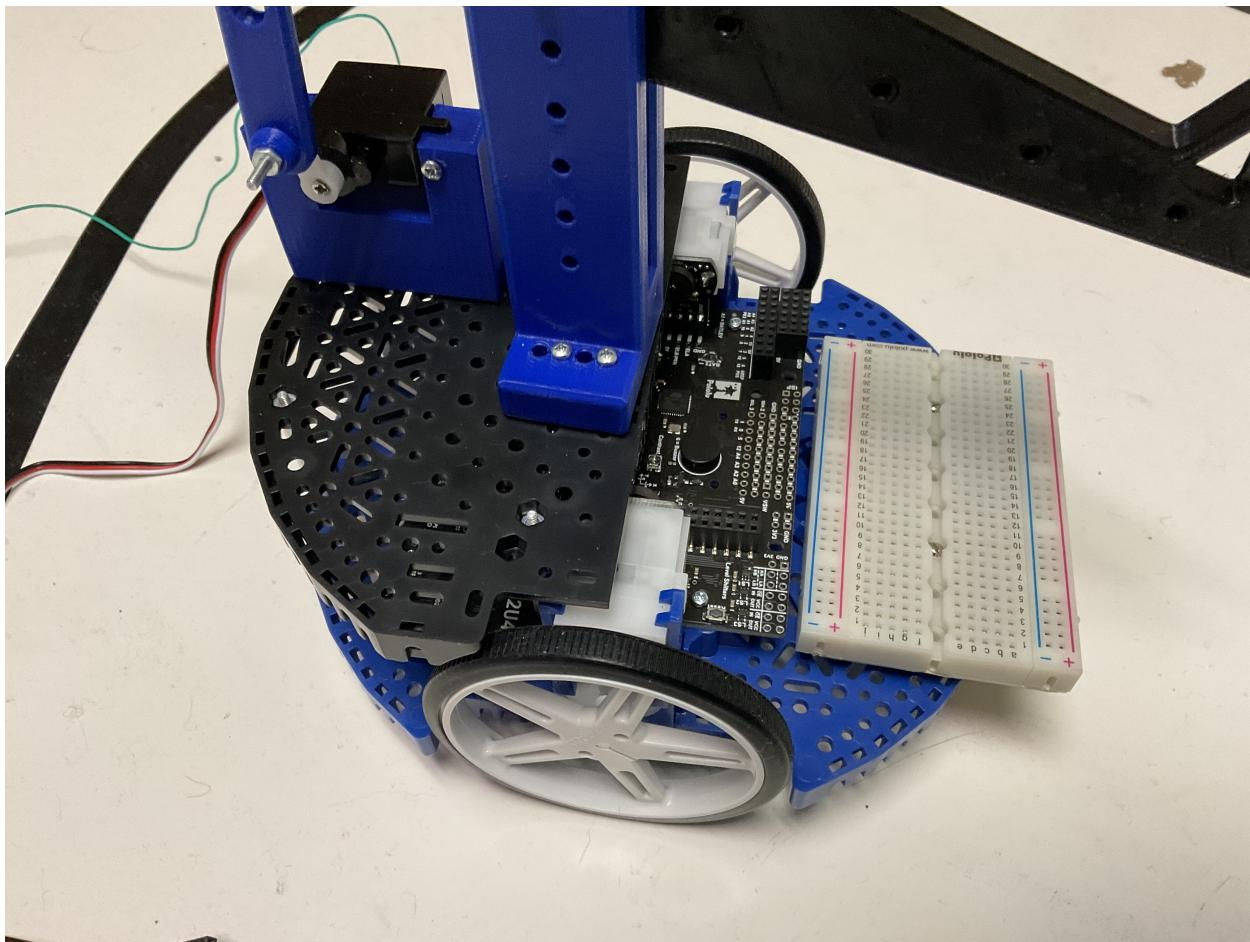

Figure 9: Romi with breadboard mounted.
- (a) Using the plastic tubing in your kit, cut (2) 1/4" lengths to be used as spacers. Using 3/4" screws, mount the breadboard to the base with the spacer between the breadboard and the chassis, as shown in Figure 9. Alternatively, you can just use tape or a rubber band to hold the breadboard to the Romi, but do not remove the backing paper on the breadboard – you'll never get it off if you want to move it later.